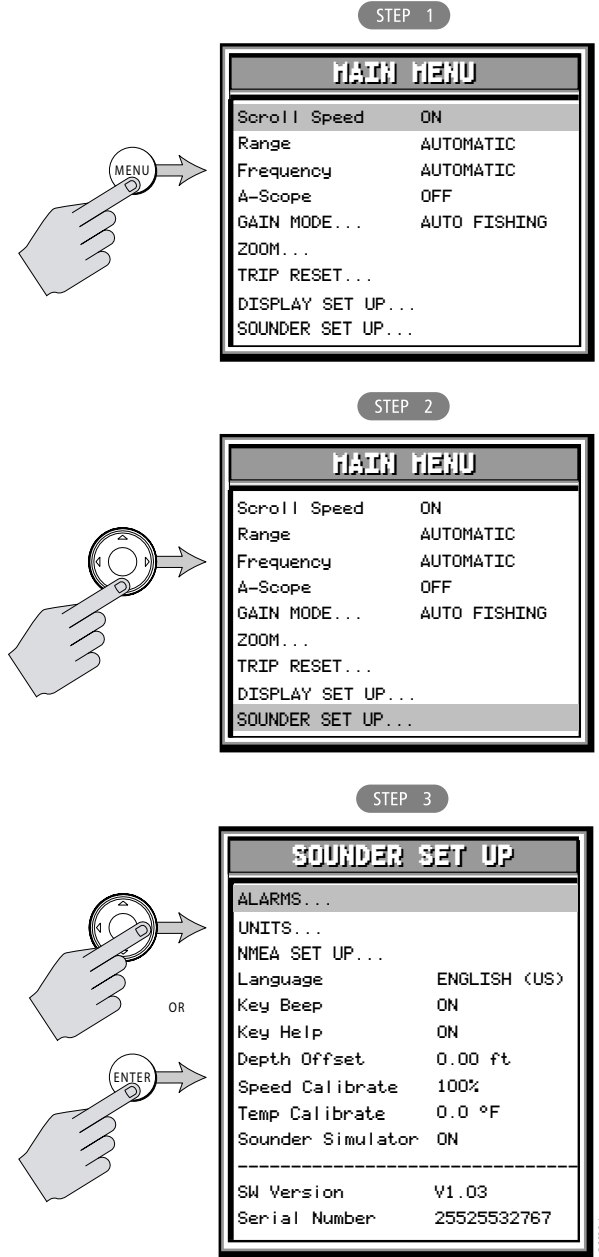

Figure 6-1: Accessing Sounder Set Up Menu Items
*Figure 6-1* also demonstrates how to access the Sounder Set Up Menu Items. A description of how to browse the menu and make selections is outlined in *Selecting MENU Items* on page 25.